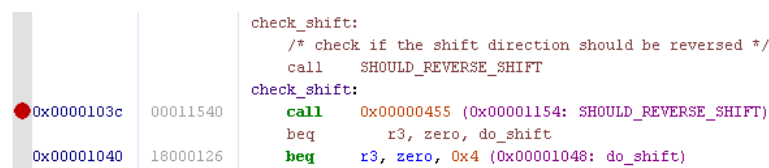

Figure 22. Setting a simple instruction breakpoint in the **Disassembly** window.
3. Click on the gray bar to the left of the address `0000103c` (address value of the `check_shift` label) to set an instruction breakpoint at this location. See Figure 22 for an illustration of what a breakpoint in the Disassembly window looks like. Clicking the same location again will remove the breakpoint.